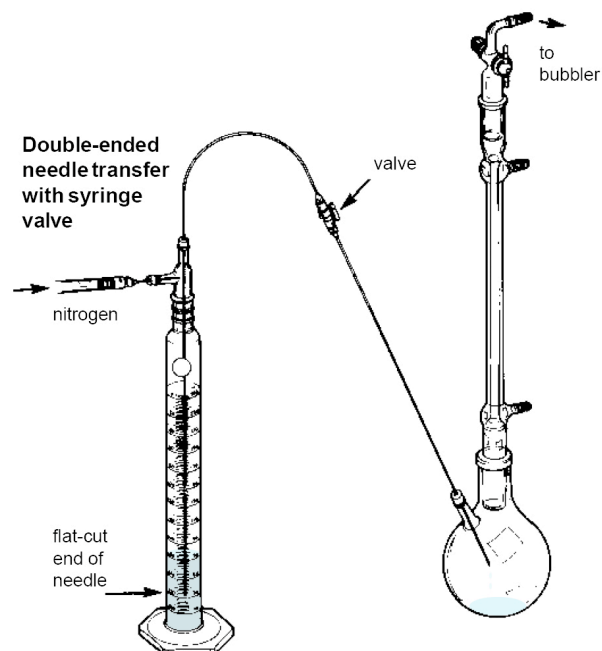

Fig. 3C Double-ended needle transfer with syringe valve
- To control flow rate, fit a Luer lock syringe valve between two long needles as shown in (**Fig. 3C**).